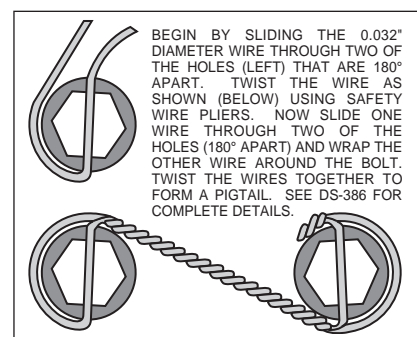

Figure 7. Safety Wire Diagram
- With the larger I.D. side of the rotor (4) facing away from the hat (3), bolt rotor (4) to hat (3) through the backside of the rotor using washers (5) and bolts (6). Using an alternating sequence, apply red *Loctite*® 271 to the threads and torque bolts to 155 **in-lb**. For an added measure of security, the bolts may be safety wired using standard 0.032 inch diameter stainless steel safety wire as shown in Figure 7. Please refer to Wilwood's data sheet DS-386 for complete safety wire installation instructions.